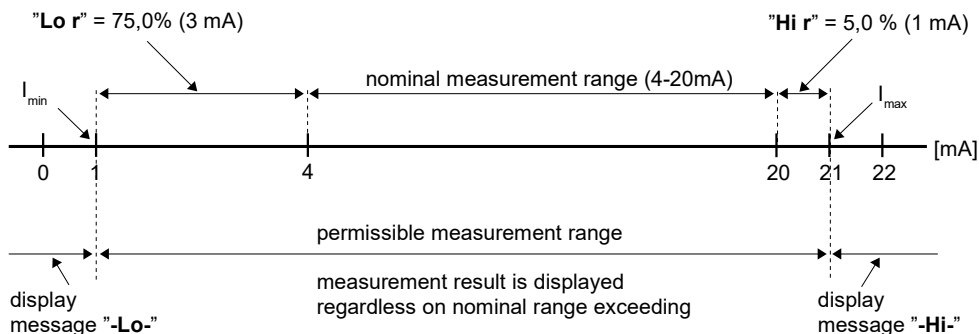

Figure 7.1 Example of definition of permissible range of input signal - "Lo r" and "Hi r" parameters ("4-20" mode)
**“Lo r”, “Hi r”** - these parameters define the expansion of nominal range in percent. They determine the permissible range of input signal (Figure 7.1).